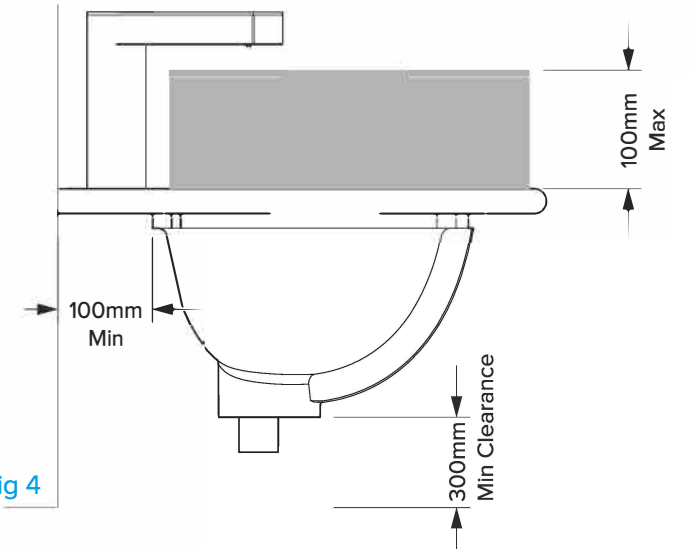

Fig 4
2. Take note of the required clearance as shown in figure 4.